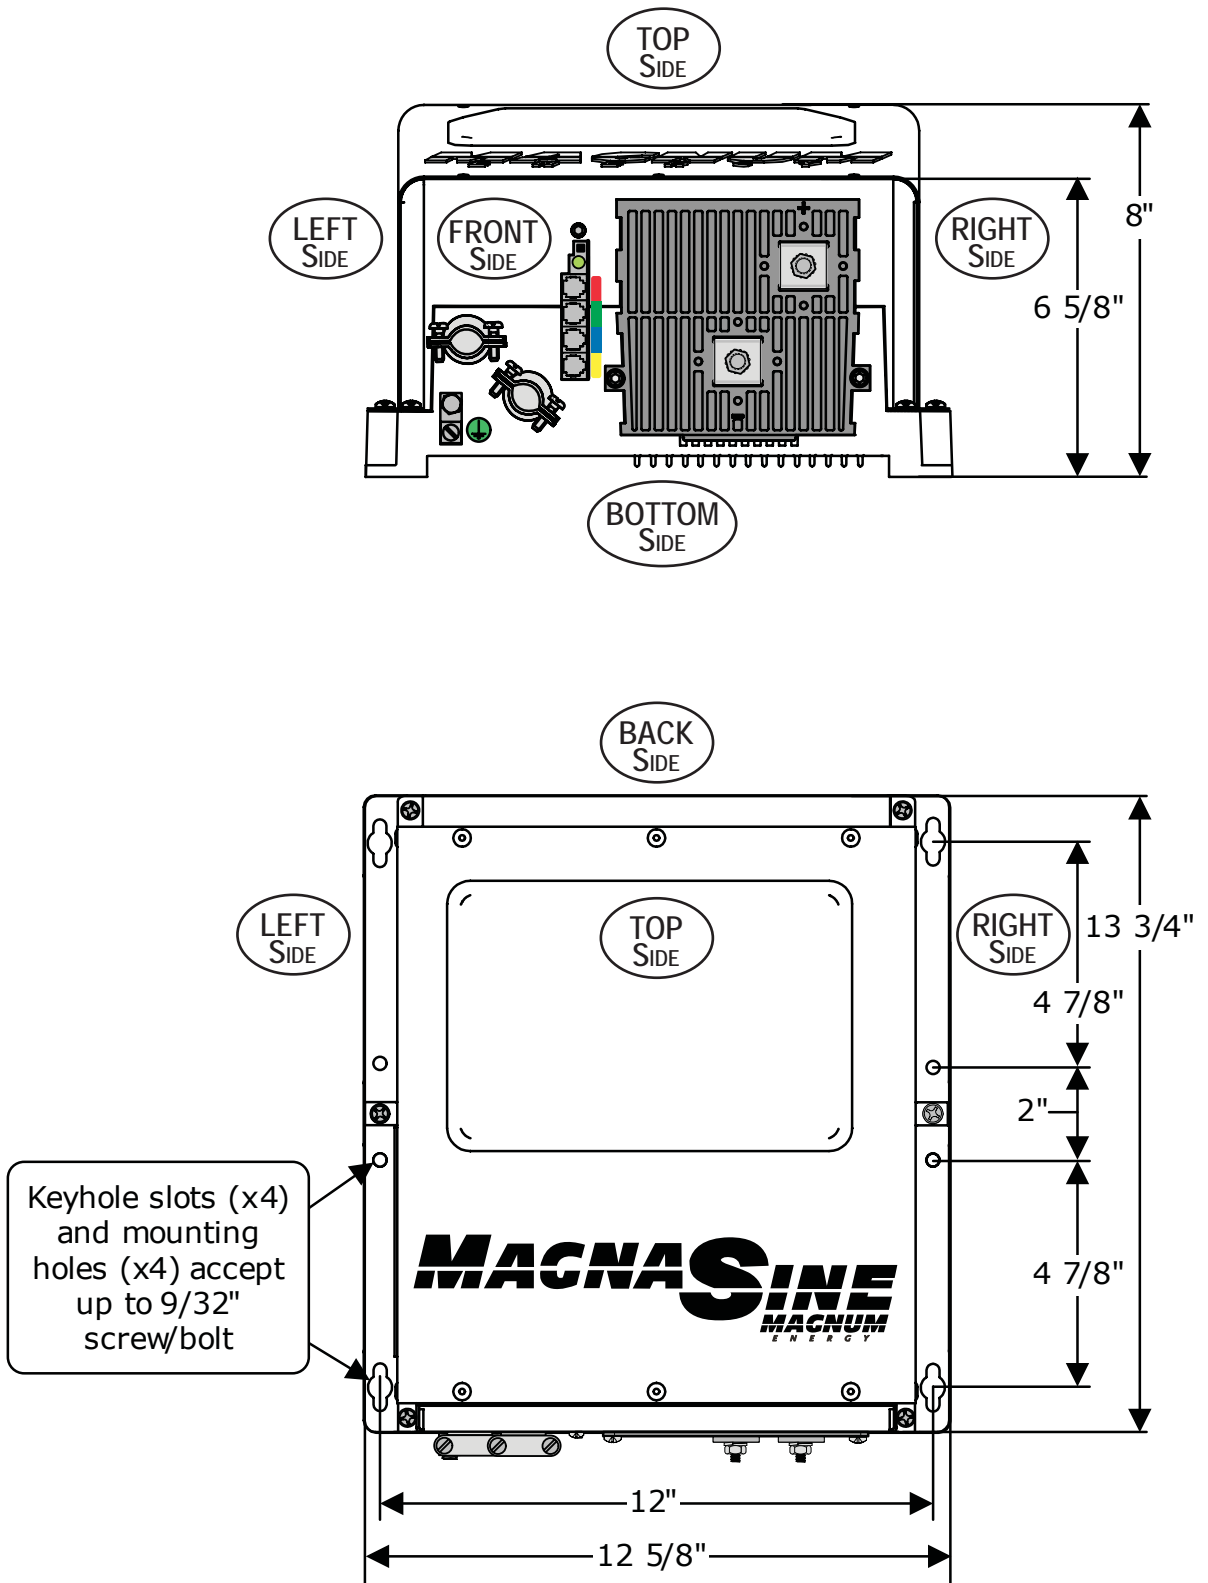

Figure 2-3, MS Series Dimensions and Side Reference
**Accessible** - Do not block access to the inverter's remote control and accessory ports as well as the inverter's controls and status indicator. Also allow enough room to access the AC and DC wiring terminals and connections, as they will need to be checked and tighten periodically. See figure 2-3 for the MS Series inverter/charger dimensions.
After determining the mounting position, refer to the physical dimensions as shown in figure 2-3 or use the base of the inverter as a template to mark your mounting screw locations. After marking the mounting screw locations, mount the unit with appropriate mounting hardware.